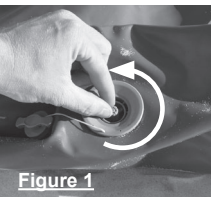

Figure 1
- 2) Once in the setup/ launch position, unroll and place the Revolution on the ground or sand near the water's edge, and locate the valve. Remove valve cover and push valve plunger in. Turn the plunger to the left to lock into open position as shown in Fig. 1.